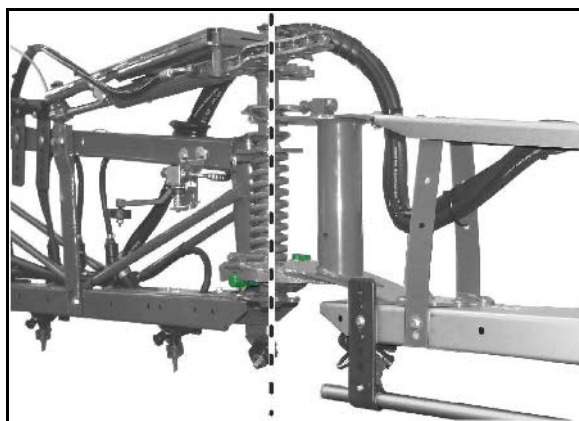

Fig. 94
Unlocking the swing compensation (Fig. 94/1):
- The swing compensation (Fig. 94/1) unlocks and the unfolded sprayer boom can swing free opposite the boom frame. For illustration purposes, in this image the protective device has been removed from the swing compensation.
Locking the swing compensation (Fig. 94/2):
- The swing compensation (Fig. 94/2) is locked when the closed lock symbol appears in the control terminal display.